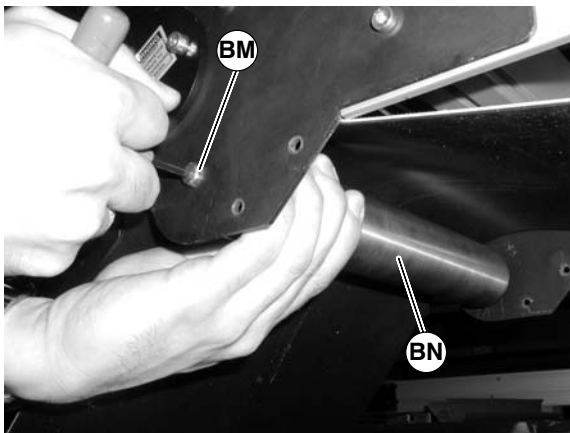

Figure 33
13. Push in hex posts (BM of Figure 33) and remove roller (BN).